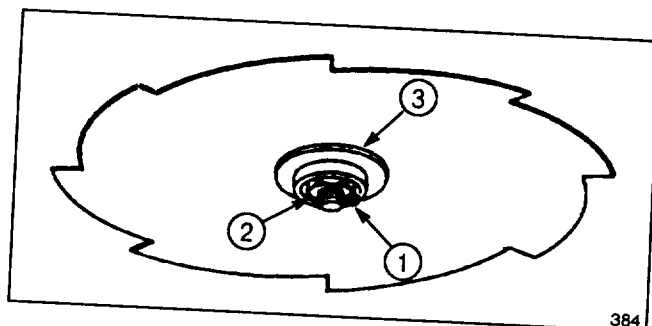

Figure 4
INSTALLING OPTIONAL CUTTER BLADE (Figs. 4 & 5)
5. Insert cotter pin through hole in shaft and wrap ends around shaft (Fig. 4).
To prevent blade from loosening and causing possible personal injury, insert a new cotter pin through hole in shaft and wrap ends around shaft (Fig. 4).